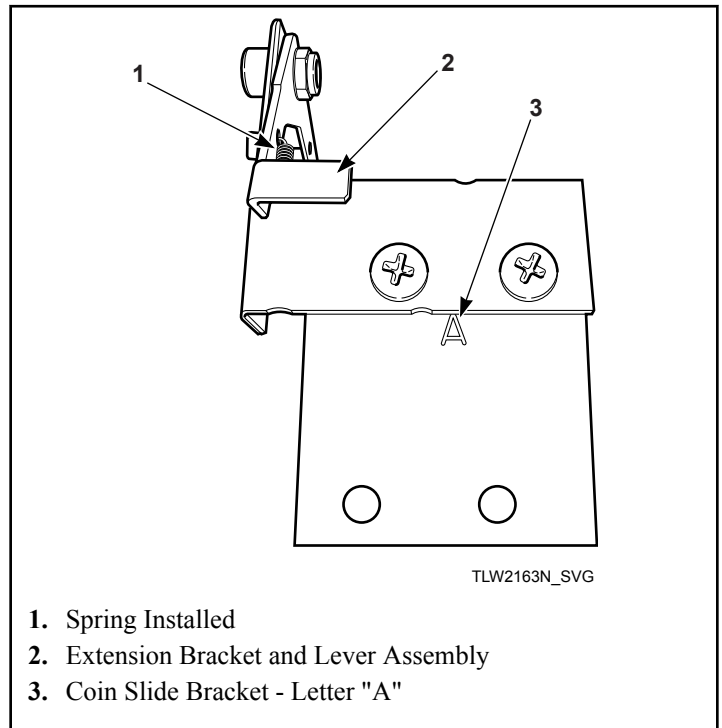

Figure 15
5. Install extension bracket and lever assembly onto coin slide bracket using two screws and locknuts. Refer to *Figure 15*. **IMPORTANT: Install coin slide bracket with side marked "A" facing up and toward extension bracket and lever assembly. Refer to *Figure 15*.**